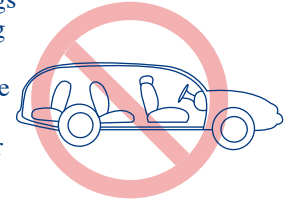

Fig. 14-1
- DO NOT** place this Safety Seat in any vehicle seat that faces to the rear or to either side of the vehicle. (Fig. 14-1 & 14-2).